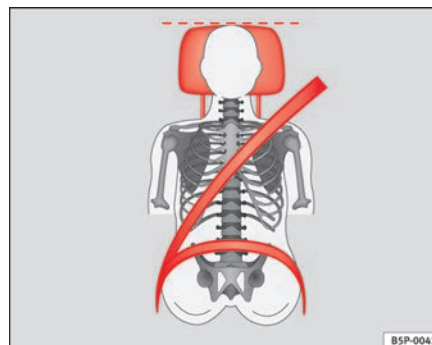

Fig. 12 Correct belt web and head restraint positions, viewed from front
- The shoulder part of the seat belt must lie on the centre of the shoulder, never across the neck. The seat belt must lie flat and snugly on the torso ⇒ page 25, fig. 12.